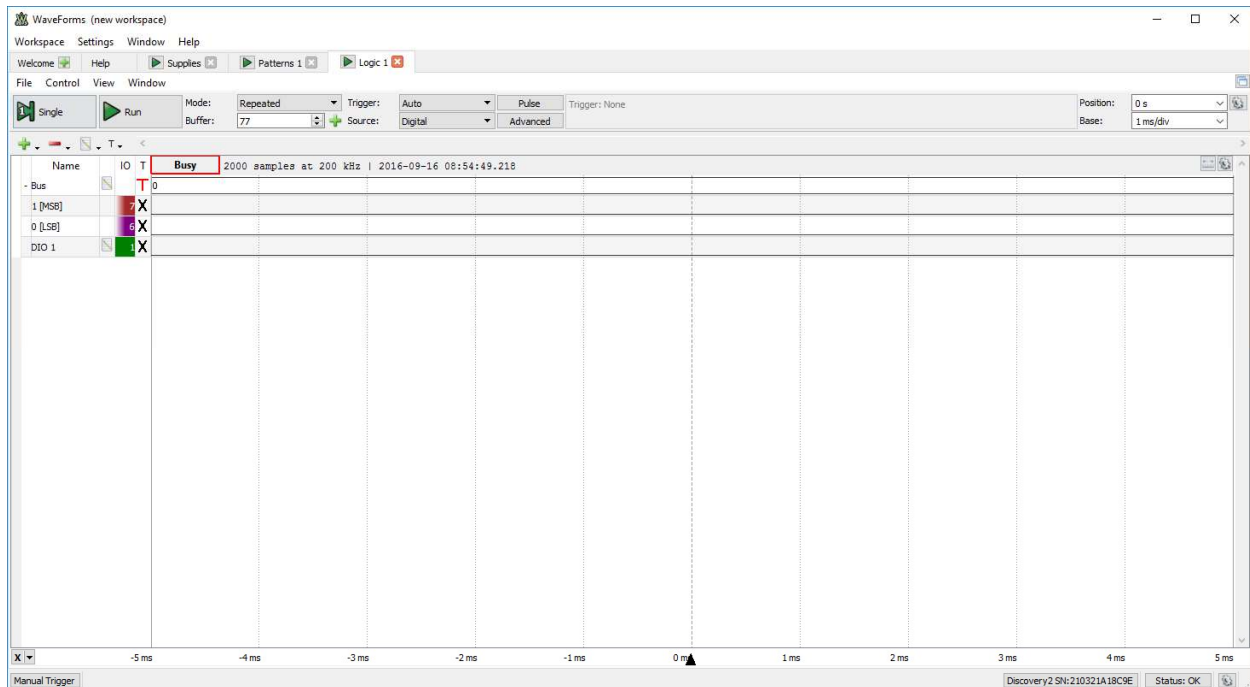

Figure 8: Logic Analyzer Ready to Draw the waveforms it samples at 7408 AND Gate
- j. **Compare** your work to Figure 8.